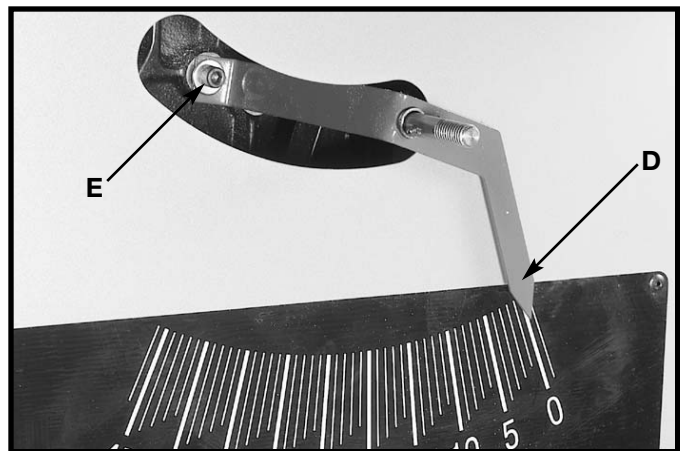

Fig. 48
5. Adjust the pointer (D) Fig. 48 to point to the zero degree mark on the scale by loosening screw (E), adjusting pointer (D), **and tightening screw (E)**.